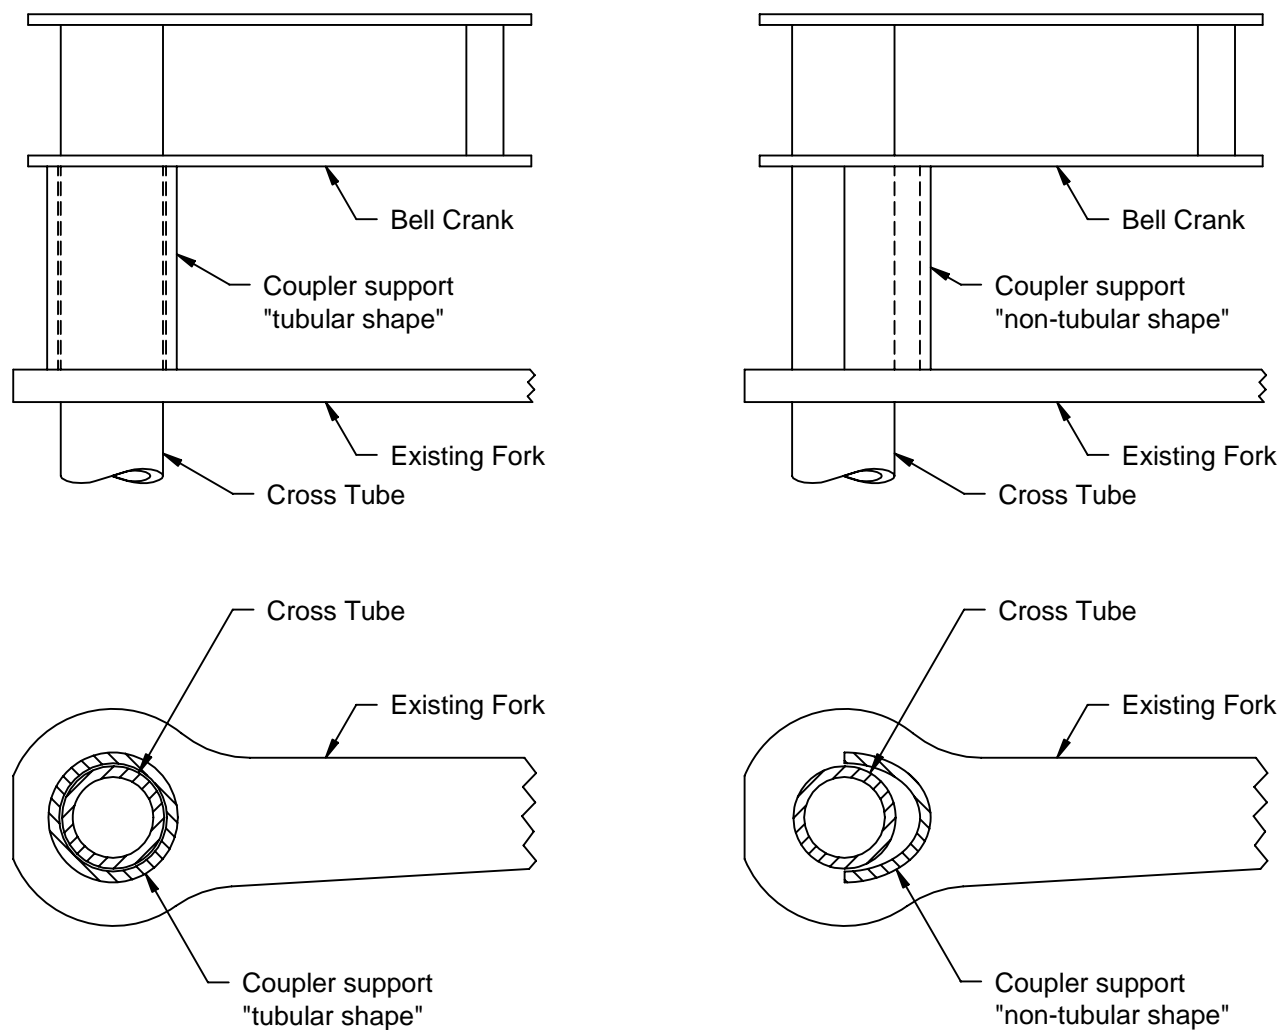

Figure 5-D
- 5.3.3 Most truck body manufacturers use a reinforcement coupler support between the fork and coupler plate. There are various types of coupler supports being installed by OEM's. The two most common types are illustrated below (refer to Figure 5-D). This coupler support will need to be removed to allow welding access when installing the fork mounting clamp on the cross tube. This coupler support must be reinstalled on the fork scales so the final fork assembly is equivalent in strength to the original OEM design.